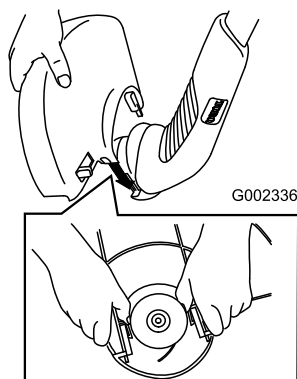

Figure 2
3. Install the guard as shown in Figure 2, snapping it into both sides of the trimmer.